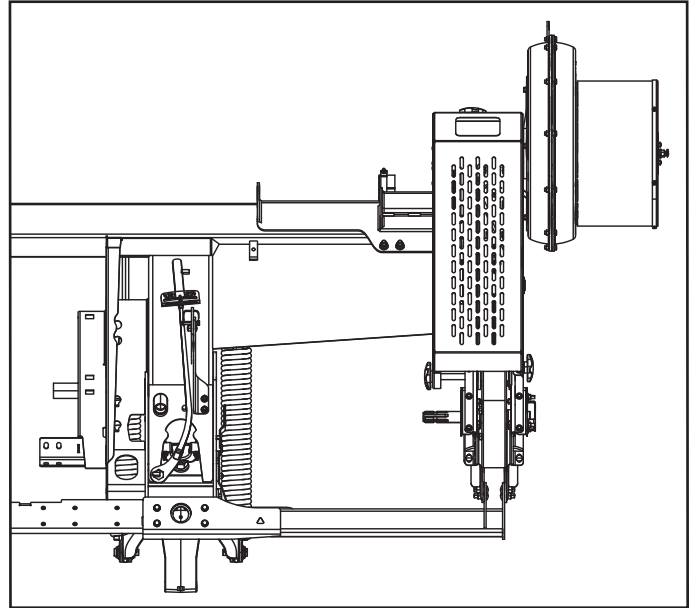

Figure 4: FD1 Belt drive mount location
1. Loosely, attach the bottom tube **(1)** to the header on the rear using four 3/8 X 1-1/4 flange bolts on the left hand side (Figure 4). Holes may need to be tapped to 3/8-16.